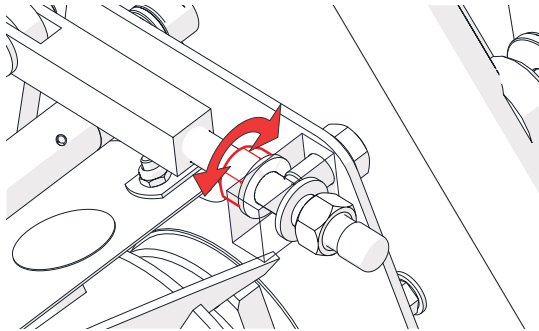

Fig. 12D - Tighten/loosen the adjustment nut
6. Adjust the gap with the adjustment nut [19 mm spanner] (Fig. 12D). Only very small adjustments are required - start with $\frac{1}{8}$ of a